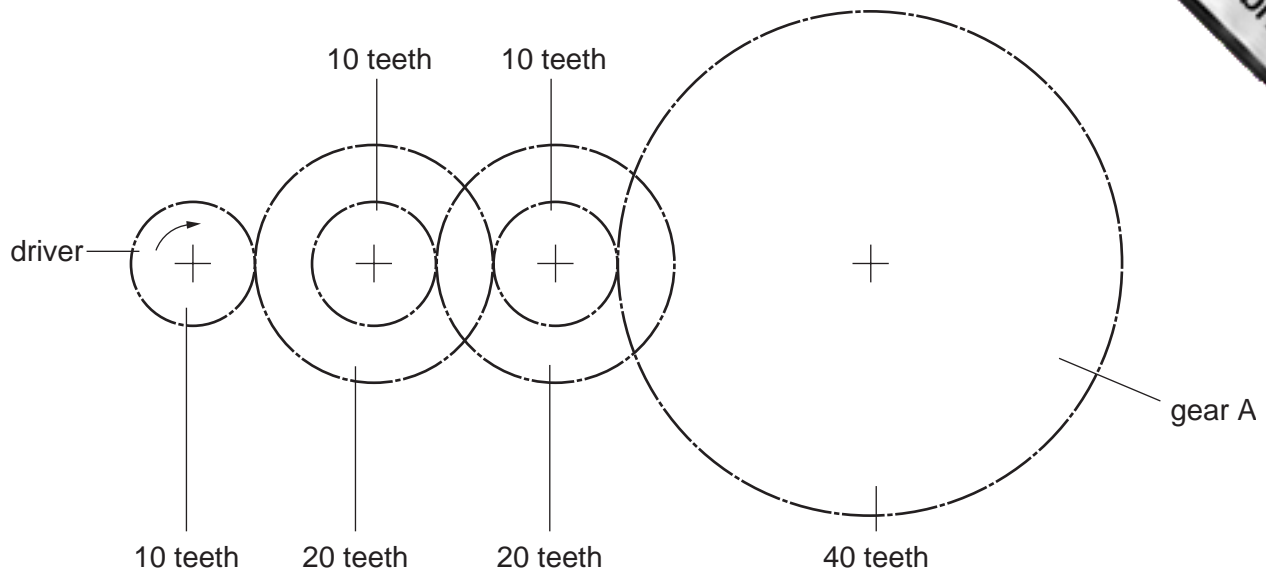

Fig. 4
6 Fig. 4 shows a compound gear train for a toy car.
- (b) Calculate the Velocity Ratio of the gear train in Fig. 4. [3]